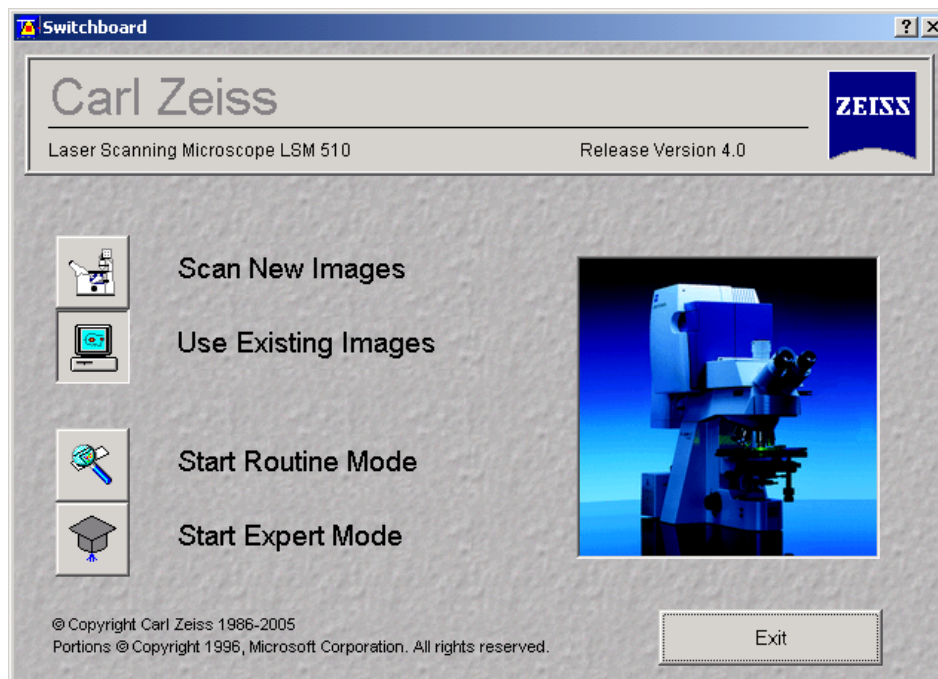

Fig. 4-4 LSM 510 Switchboard menu
- The **LSM 510 Switchboard** window appears on the screen (Fig. 4-4).